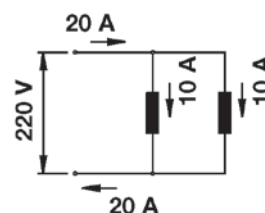

Figure 1.6b
- By making a parallel connection (figure 1.6b), where the voltage is applied across each load. In this case, the current in each load is half of the total circuit current.